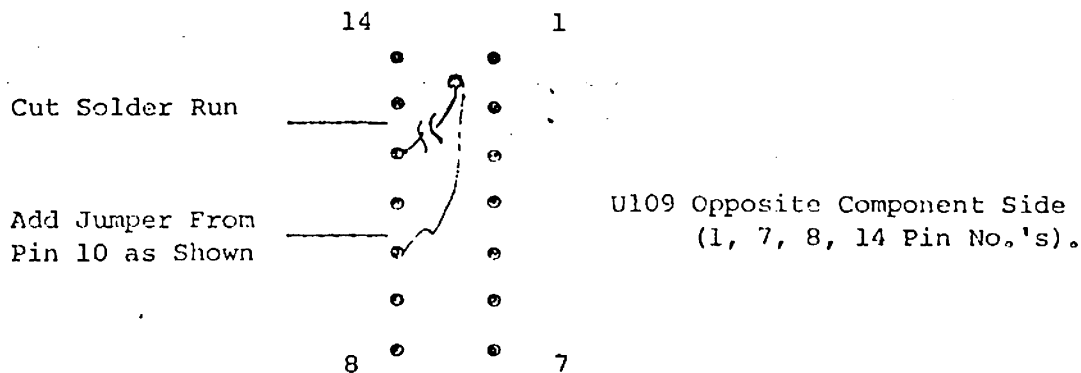

FIGURE 1
REWORK INSTRUCTIONS: 1.0 Perform all servo adjustments and ensure overshoot is to the minimum. (Ref: D3000 Manual, 102780, Section 6) 2.0 Locate I.C. UI09. (Opposite component side) 2.1 Cut etch to Pin 12 (see Figure 1).
- 2.2 Add jumper from Pin 10 to output etch as shown in Figure 1.